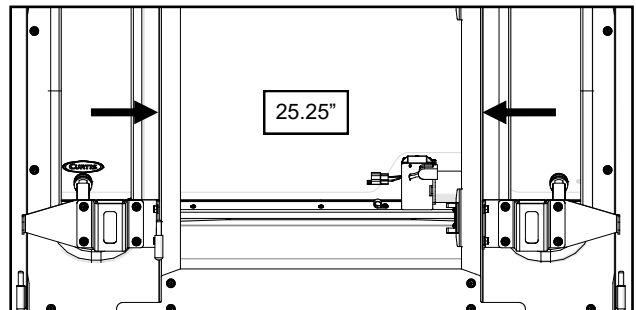

Fig. 16.1 (Measure Rear Legs Left to Right)
16.1 Measure the back of the rear legs, outside to outside, and adjust the width to 25.25". Measure corner to corner for squareness, and tighten the (6) sets of screws and nuts to lock in this width. See figure 16.1